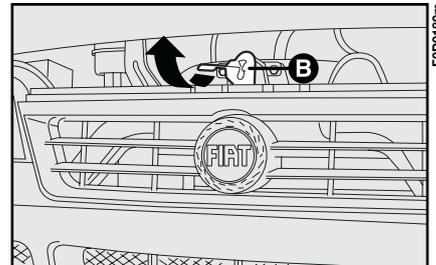

fig. 134
- Lift the bonnet from the front by raising lever **B**-fig. 134.